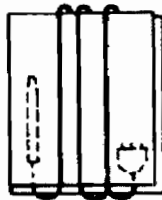

Fig. 2
3. Fold the material over the pencil body and proceed to coil the cord around the material lengthwise (Fig. 2).